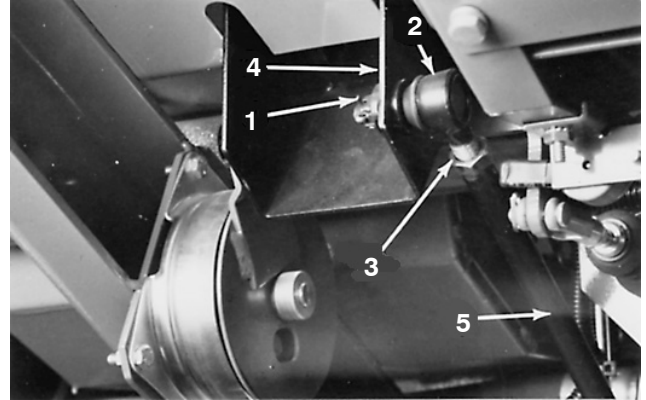

Figure 76
2. Remove cotter pin and slotted nut from ball joint at traction pedal (Fig. 76). Disconnect ball joint from traction pedal.